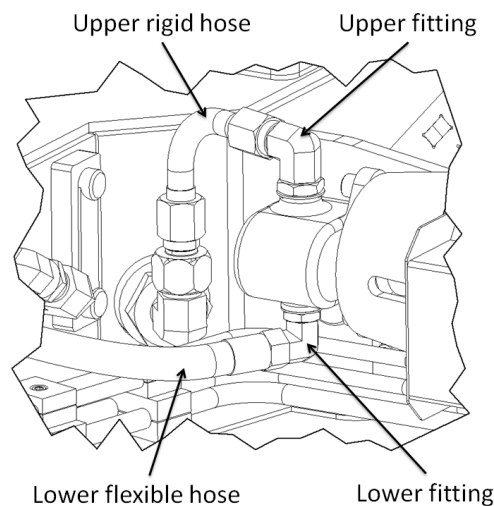

Figure 24 : Hydraulic pump hoses details
3. Disconnect the upper rigid hydraulic hose, then remove the upper fitting (see Figure 24). The rigid hydraulic hose may need to be loosened on the tank side then rotated to remove the fitting.
4. Remove the lower flexible hydraulic hose, then the lower fitting (see Figure 24).